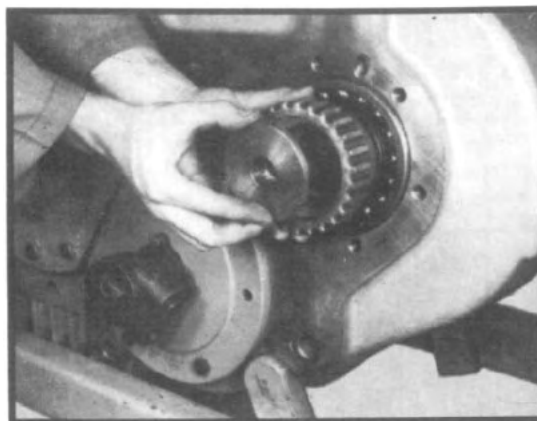

Fig. 95
13. Install the spacer washer, declutch gear and special washer onto the rear of the shaft with the locking capscrew. (See fig. 95.)